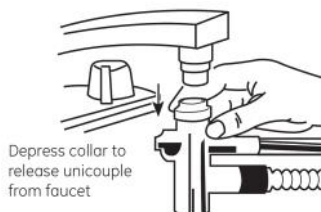

Fig. 11c
- Depress the locking collar and remove the quick connect assembly from the faucet. (Fig. 11c)